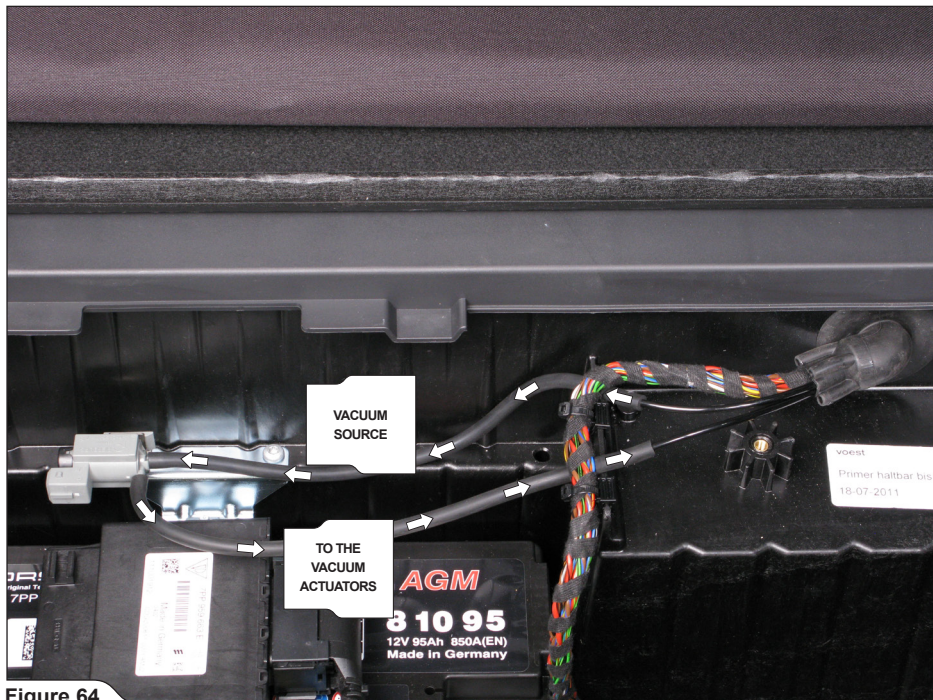

Figure 64
10. Connect the two 35cm rubber vacuum hoses from Akrapovič installation kit, to the PVC vacuum tubes, as shown (Figure 64).